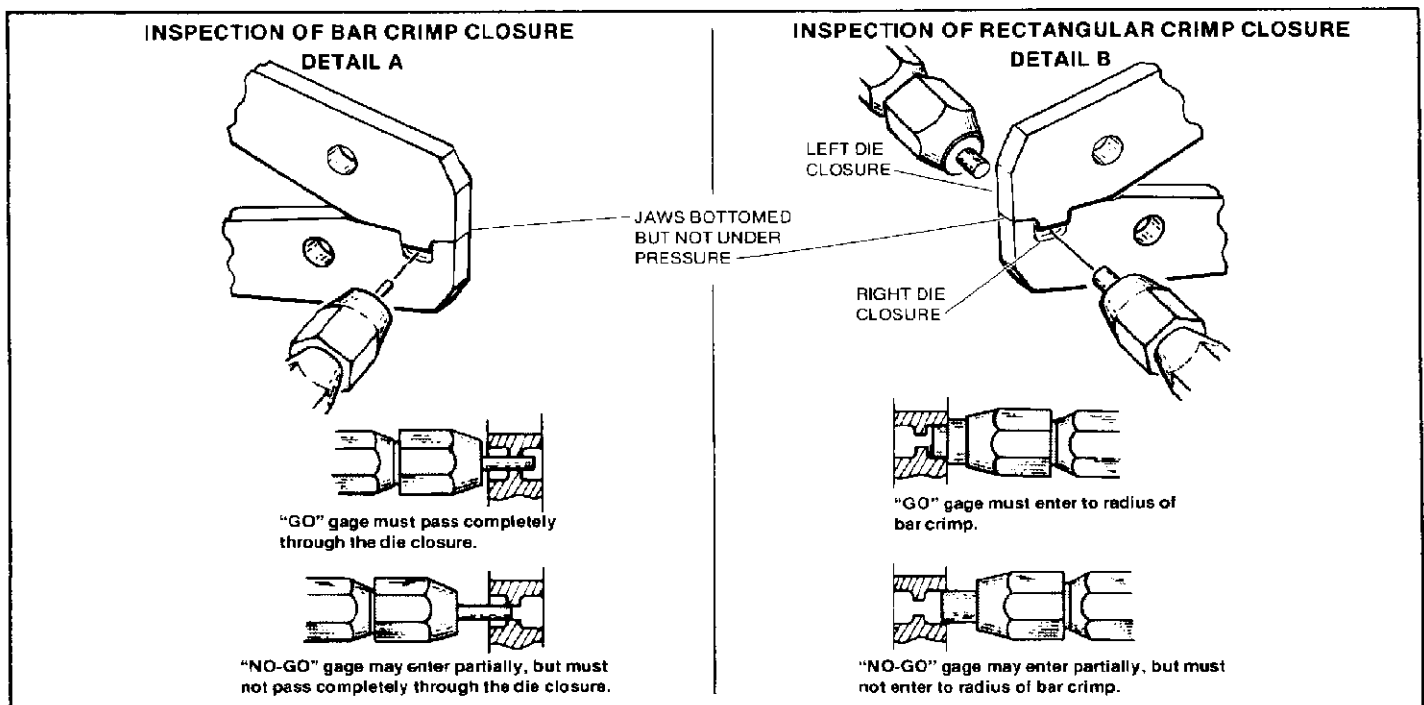

Figure 8
- With crimping jaws bottomed, check the bar crimp closure using the proper plug gage. Hold gage in straight alignment with the die closure and carefully try to insert, without forcing, the GO member. See Figure 8, detail A. The GO member must pass completely through the bar crimp closure.
- (e) With dies bottomed, check the right and left rectangular crimp closures using the proper plug gage in the same manner as steps (c) and (d). See Figure 8, detail B.